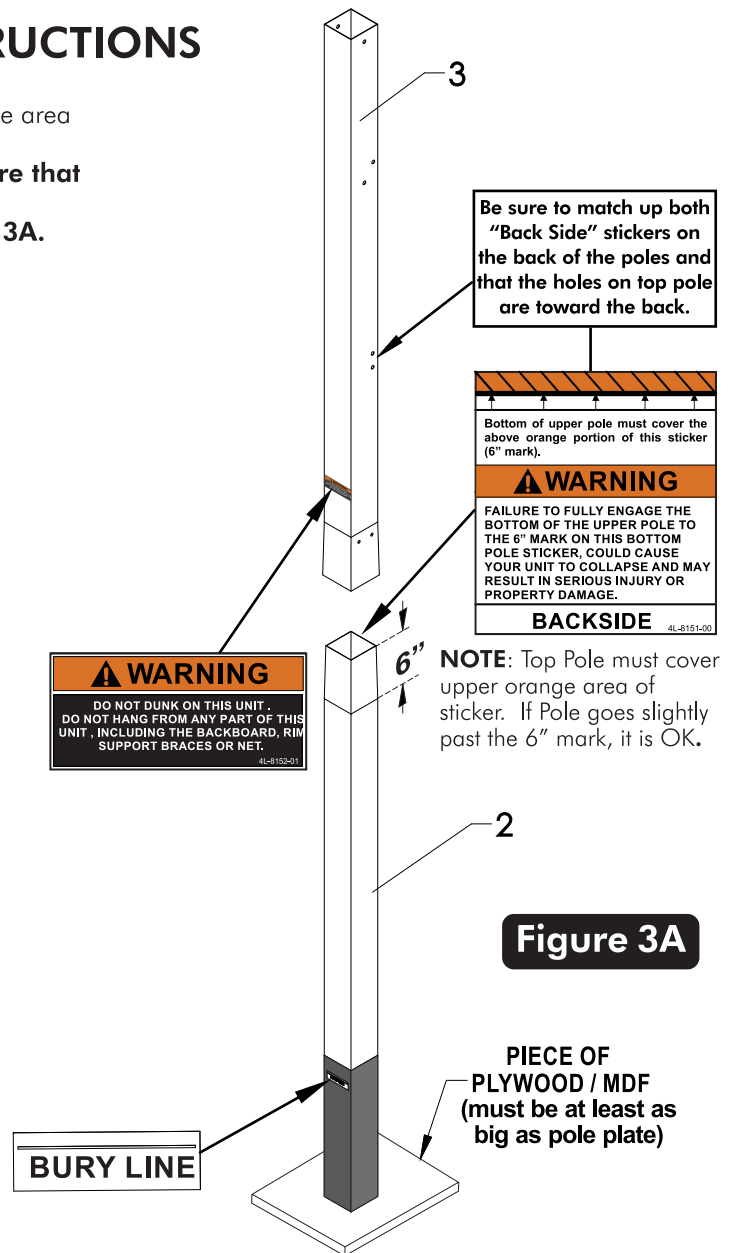

Figure 3A
- Before putting any of the poles tubes together, make sure that the orange area of the Warning Sticker on Pole (#2) is 6 inches from the top end. **Be sure that the "Back Side" stickers are at the back of the pole.** See **Figure 3A**.
- Align the upper pole (#3) with the bottom pole (#2) as shown in **Figure 3A** and slide them together. While maintaining control of the pole assembly stand poles up **STRAIGHT** on a piece of MDF board or Plywood, **lift poles up by bottom pole** below the 6" mark shown on sticker and slam down the bottom pole as many times as needed on the MDF board or Plywood **until the bottom of the upper pole reaches the 6" mark** (on Sticker) on the bottom pole. Lift the pole 10-12 inches off the ground when slamming the poles together. See **Figure 3A & 3B**.